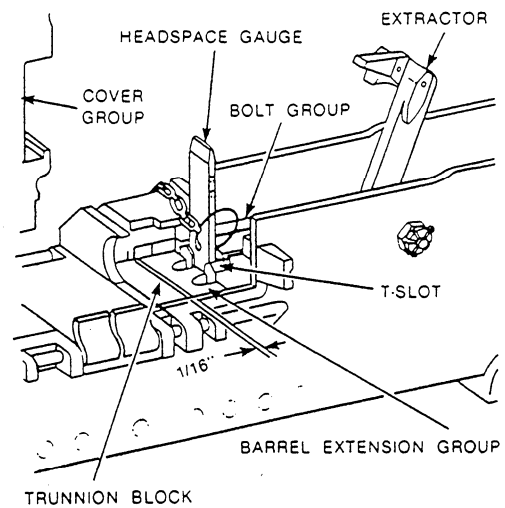

Figure 13-50.—Checking the headspace with the GO end of the headspace gauge.
4. Retract the bolt slightly, not exceeding  $1/16$  inch (fig. 13-50). Recheck the headspace adjustment as before.